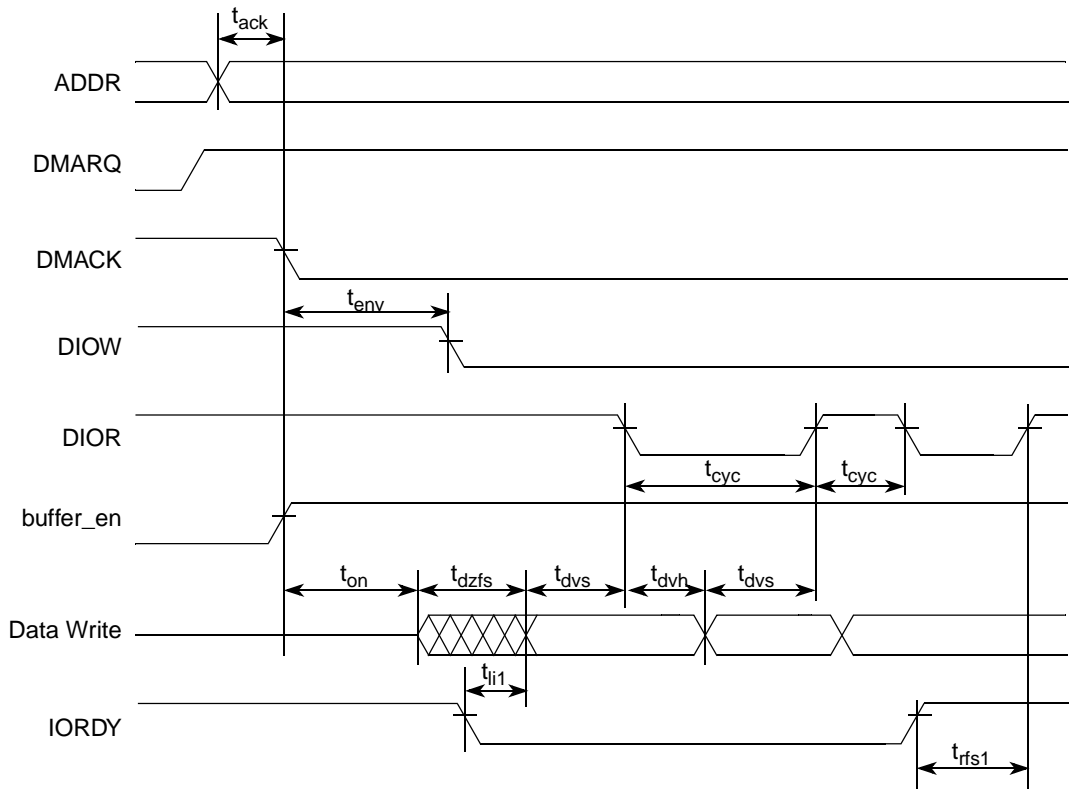

Figure 33. UDMA Out Transfer Start Timing Diagram
- Figure 33 gives timing for UDMA out transfer start